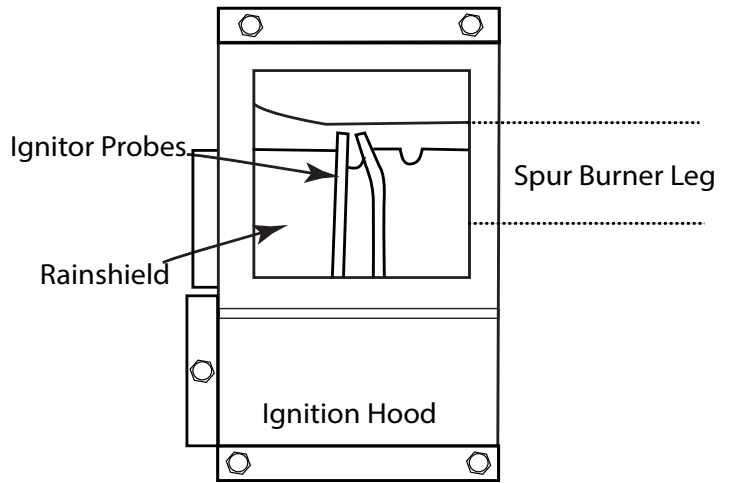

Fig. 18 Installing ignition hood.
Step 5: Install the ignition hood over top of the ignition probe assembly into the existing pre-punched holes of the burner pan by using the five #10 - 24 x 1/2" provided screws. (See Fig. 18).
Step 9: Test the ignitor by pushing and holding the red button to ensure the 2-probe ignitor is sparking inside the ignition box in the burner pan. The spark should be located directly over top of the burner port hole for proper ignition of the gas as previously discussed. Spacing between the probes should be approximately 1/8" for proper spark. See Fig. 18.